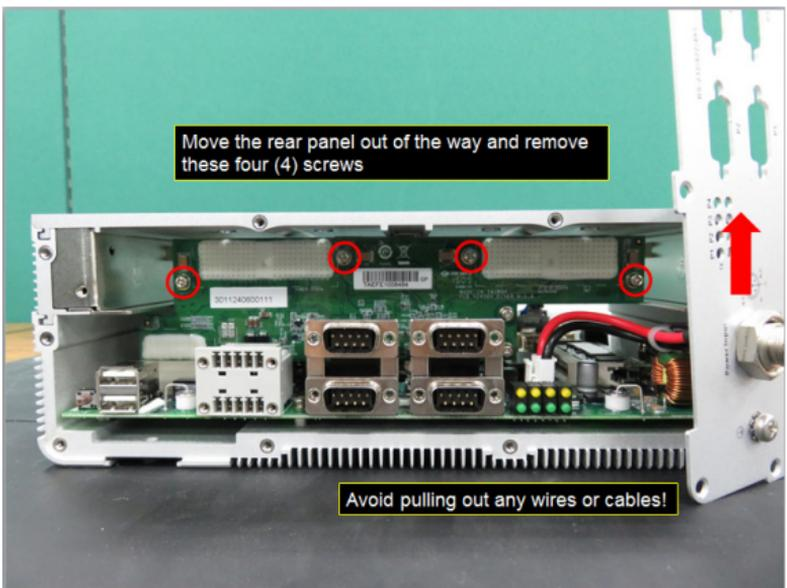

Figure 10
- 4.1.8 Place the rear panel vertically beside the computer on the right side without pulling out the wires as shown in Figure 10 and use a Philips screwdriver (item 1 in Table 2) to remove the four (4) screws indicated with red circles in Figure 10.